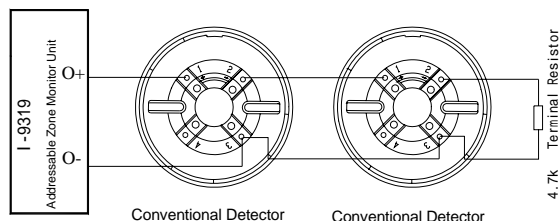

Fig. 6
3. If the output end connects with terminal resistor, the diode will not be added to the detector base, system composition is shown in Fig. 6.